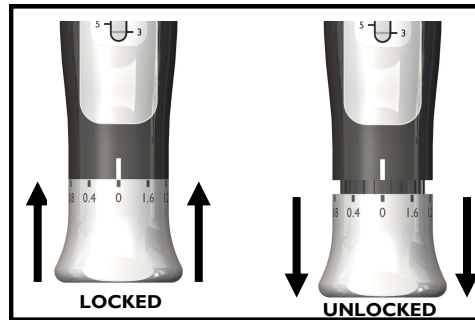

FIGURE 2
2. Turn the adjustment knob clockwise to increase torque setting or counterclockwise to decrease. The micrometer scale is read by adding the primary scale and secondary scales. Figure 2 shows a setting of 5.8Nm. The primary scale reading is 5 and the secondary scale reading is 0.8.